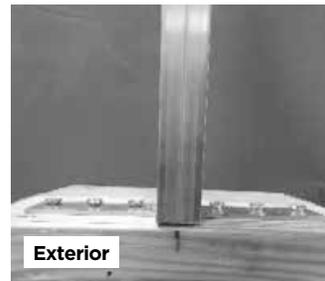
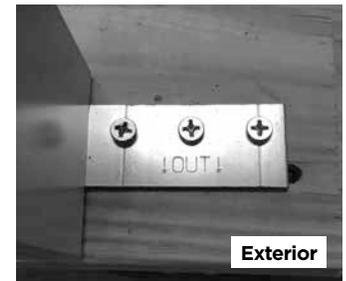

Figure 4a
Figure 4b
4. Align the mullions with the marks from Step 2 at the head, sill and the exterior of the substrate (**Fig. 4a**). The H-clip must be positioned with the stamped word "OUT" and arrow pointing towards the exterior of the opening (**Fig. 4b**).